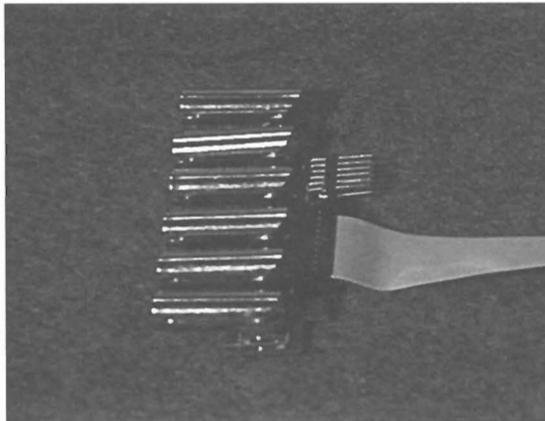

Figure 1
- 1 Lay the Flyer BNC connector flat on a static-free surface. See Figure 1.